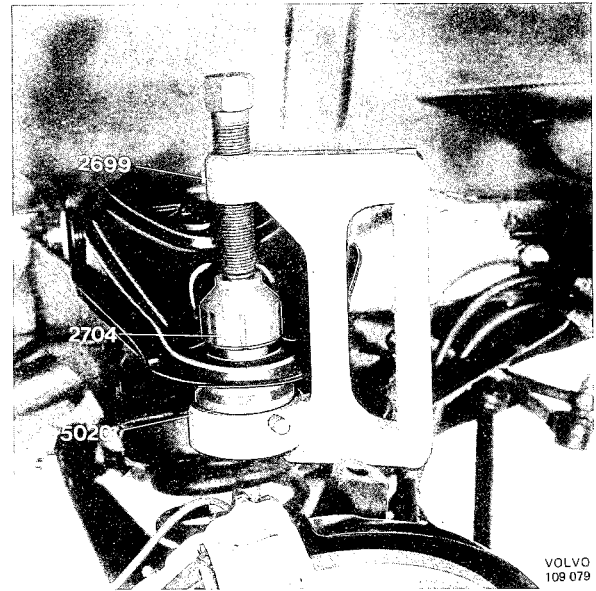
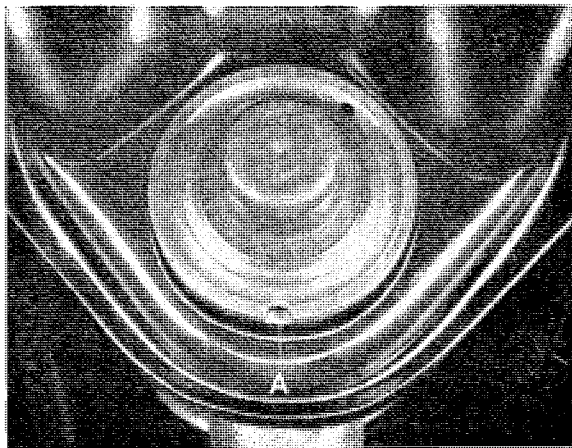

Fig. 6-23. Installing upper ball joint
Fig. 6-22. Location of ball joint in upper control arm
1. Before installing the ball joint, check that the rubber seal is filled with grease. Bend the pin end over the slot (A, Fig. 6-22) and check that the grease forces its way out. If necessary, top up with multipurpose grease.
2. Press the ball joint into the control arm with press tool 2699, sleeve 5020 and drift 2704, see Fig. 6-23. Make sure that the ball joint recess coincides with the longitudinal shaft of the control arm (within  $\pm 8^\circ$ ) either externally or internally (Fig. 6-22) as the pin has maximum movement along this line. Should the ball joint be incorrectly fitted when being pressed in, turn the tool 2699 half a turn and then press the ball joint into the correct position. The ball joint must not be loose in the control arm.